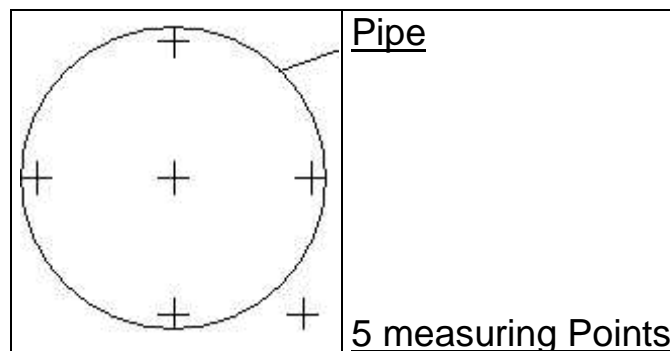

Figure 2
4. Place the anemometer at the end of the measuring pipe and measure in the 5 test points, see figure 2. The average velocity in the work opening must exceed 0,4 m/sec.